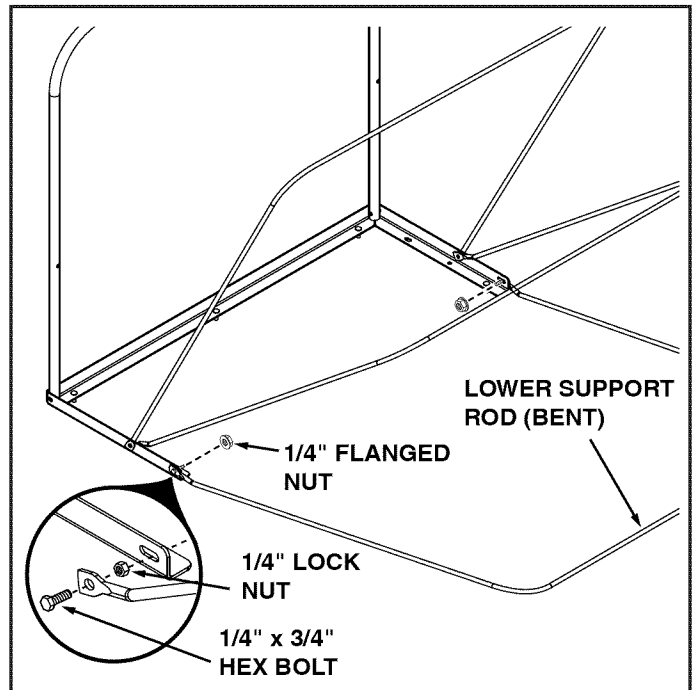

FIGURE 20
- Assemble a 1/4" x 3/4" bolt and 1/4" lock nut to each end of the second lower support rod. **TIGHTEN**, then back nut off 1/2 turn. See figure 20.
- Attach the lower support rod to the **outside** of the top support angle using two 1/4" flanged nuts. **TIGHTEN**. See figure 20.